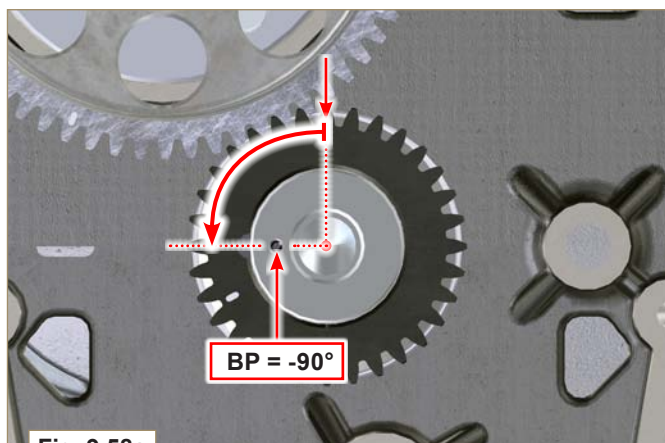
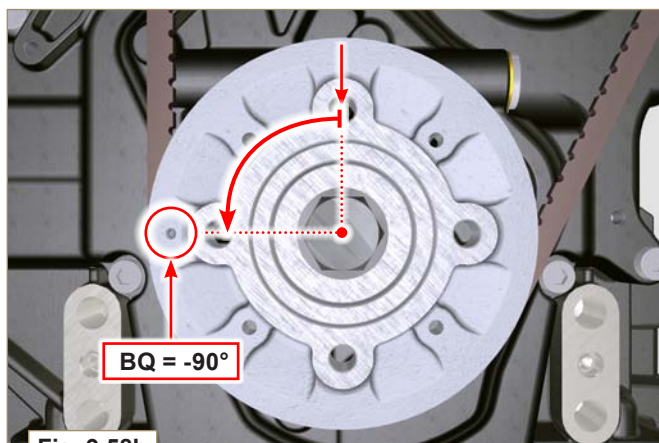

Fig. 9.58a
Fig. 9.58b
- Verify that the pistons are half way between the TDC and BDC. Rotate the crankshaft 90° anti-clockwise with respect to the TDC of the 1st cylinder, positioning the pin **BP** of the crankshaft as shown in **Fig. 9.58a**. If the pulley on the crankshaft and the timing system casing have not been removed, carry out the operation with reference to **BQ**, as shown in **Fig 9.58b**.